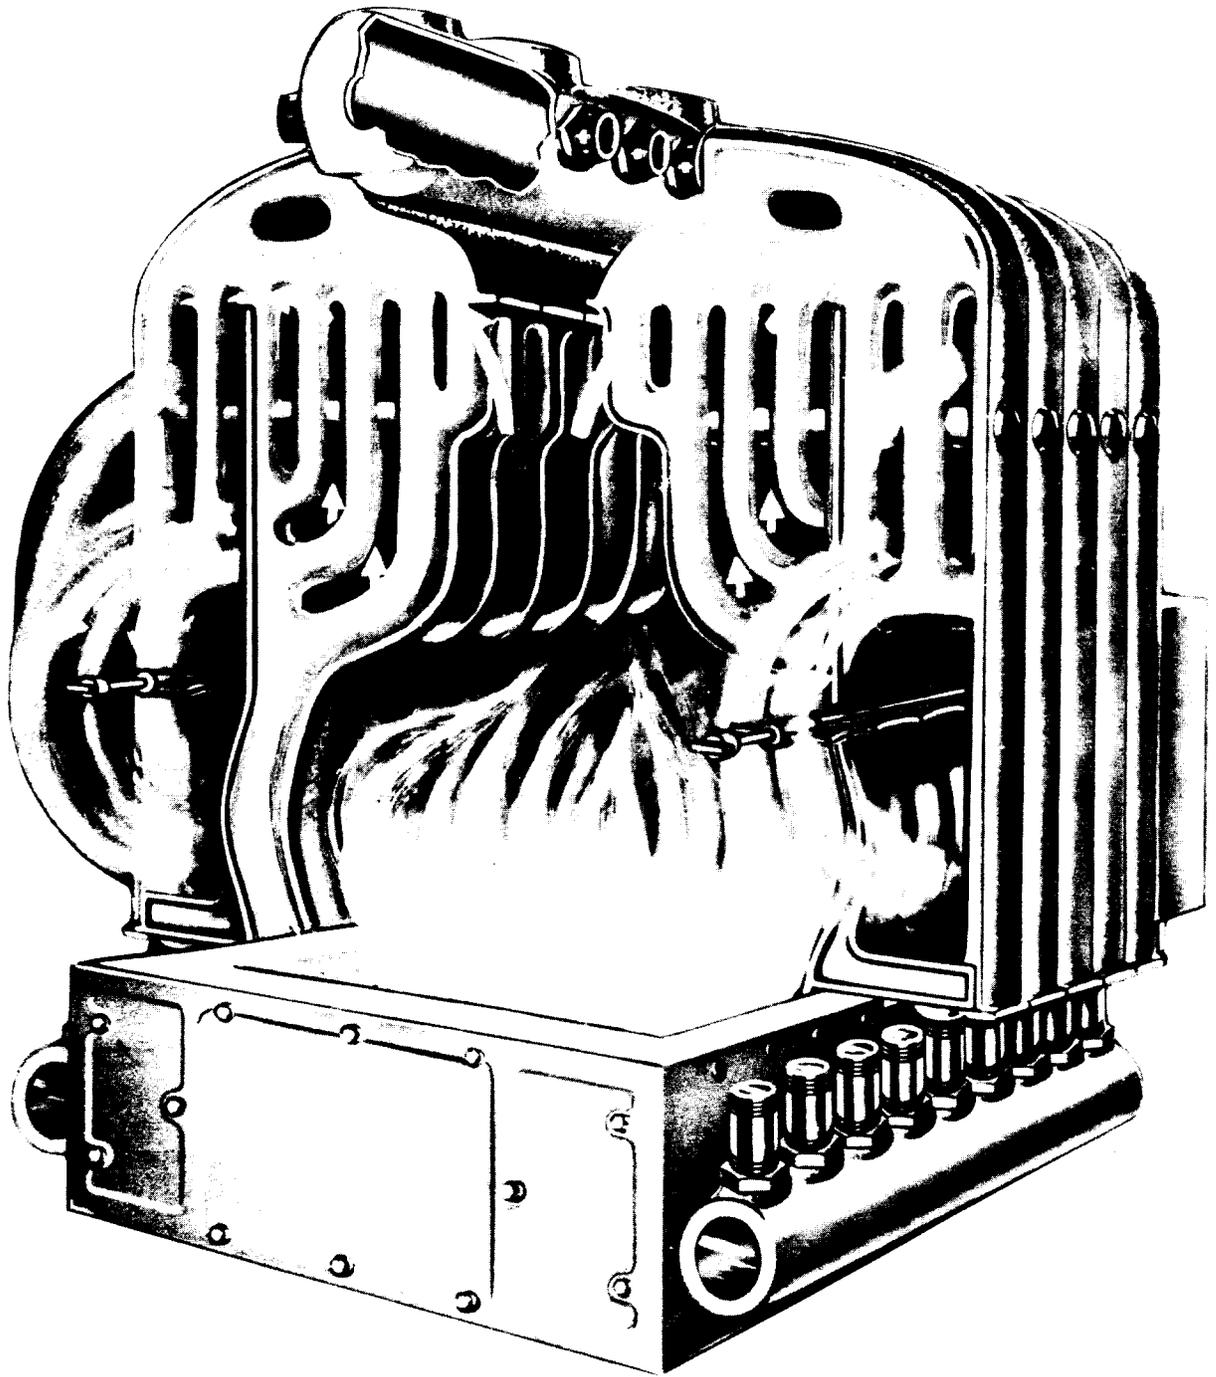

Fig. 4—External Header Boiler (H. B. Smith Co., Inc.)
**3.07** *External header or drum* (manifold) type boilers (Fig. 4) have the sections individually connected to the header drums (manifolds) with screw nipples. A common arrangement is a steam drum at the top, with two return drums at the bottom, one on each side. Individual sections may be disconnected and replaced without disturbing the rest of the assembly.